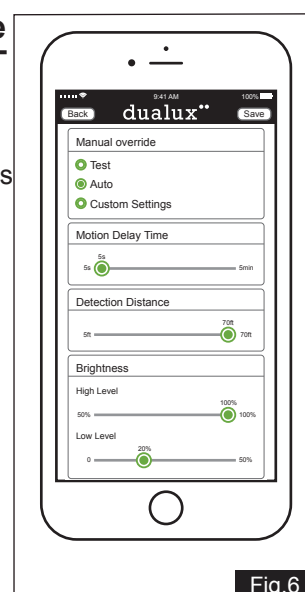

Fig.6
- You can adjust the sensitivity of the motion sensor by using the “SENSITIVITY” selector located on the right side of the bottom surface of the sensor. (See Fig. 6)
- Adjust motion sensor sensitivity to HIGH (H), MEDIUM (M), or LOW (L) to achieve desired performance.
- Approximate range for each setting: 25 ft. (L), 45 ft. (M), 70 ft. (H).
Choose a mode by sliding the switch on the bottom of the sensor. (See Fig.6)
- Slide the switch on the left side of the sensor to the “TEST” position. (See Fig.6)